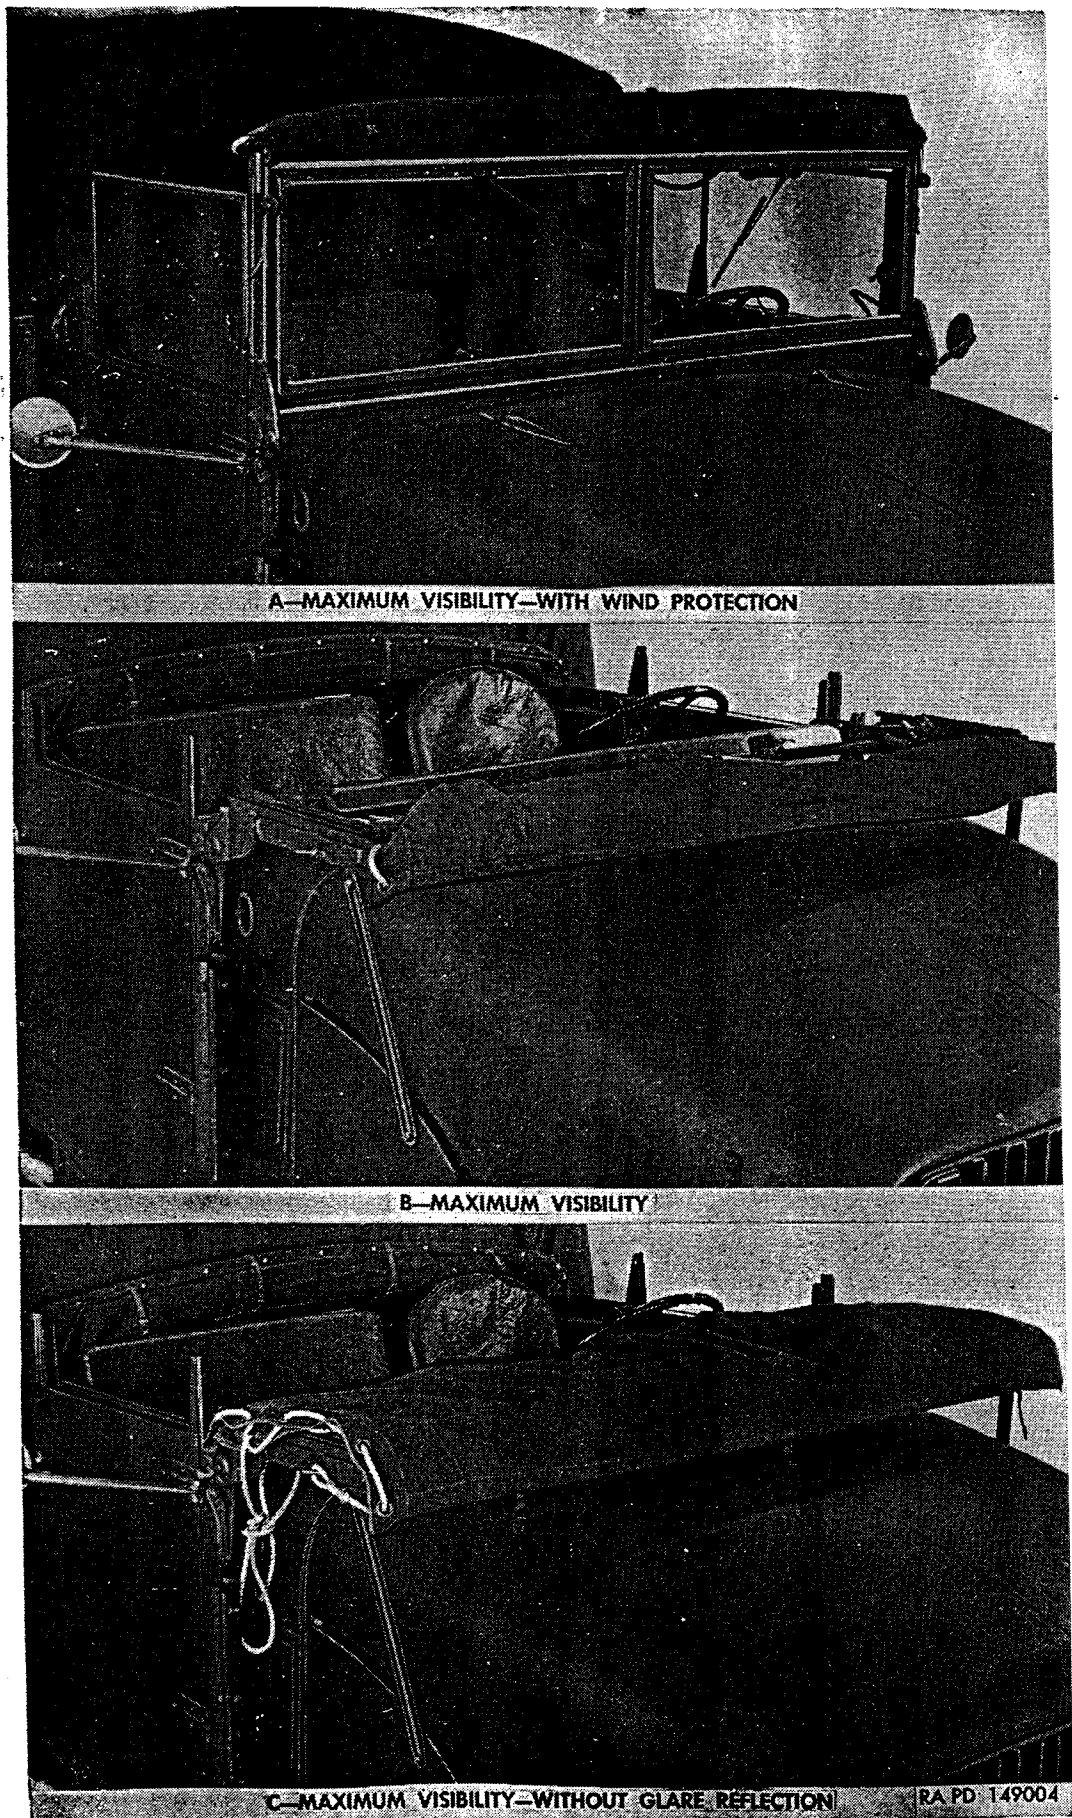

Figure 310. Roof paulin, rear curtain, and windshield positions.
- (a) *Maximum visibility with wind protection.* Vehicle may now be driven with windows cranked up, thus obtaining maximum visibility consistent with protection from wind (A, fig. 310). Door windows may be cranked down for slightly increased visibility.
- (b) *Maximum visibility.* Increased visibility is obtained by folding windshield down over hood (B, fig. 310) as described in paragraph 294c.
- (c) *Maximum visibility with minimum glare reflection.* With windshield positioned for maximum visibility ((b) above), objectional glare may be reflected from windshield glass. Reflected glare can be avoided by covering lower windshield with roof paulin. Unroll roof paulin from windshield frame, fold over windshield, and lash in place as shown in C, figure 310.
over hood. Disengage windshield support arm on each side from clip and hook to windshield bracket bolt as shown in view B, figure 310. Tighten bracket bolt nuts.